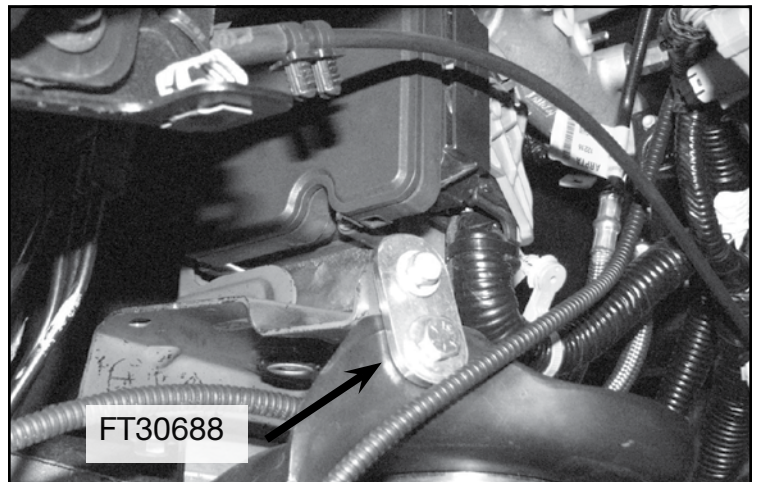

FIGURE 18 - STEP 20
20. Install FT30688 (ABS Tab) using the factory and 5/16" hardware. Torque to 29 ft-lbs. **SEE FIGURE 18**